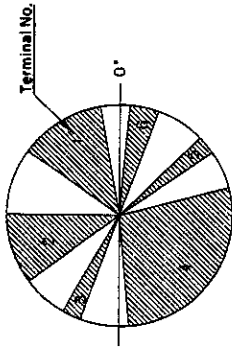

Fig. 3-1. cam switch pattern.
* The cam switch has the pattern as shown in Fig. 3-1. The circuit turns on when the signal comes on the shaded zones on the switch. The six pattern signals are judged to be on or off by the system controller in order to detect the mechanism modes.